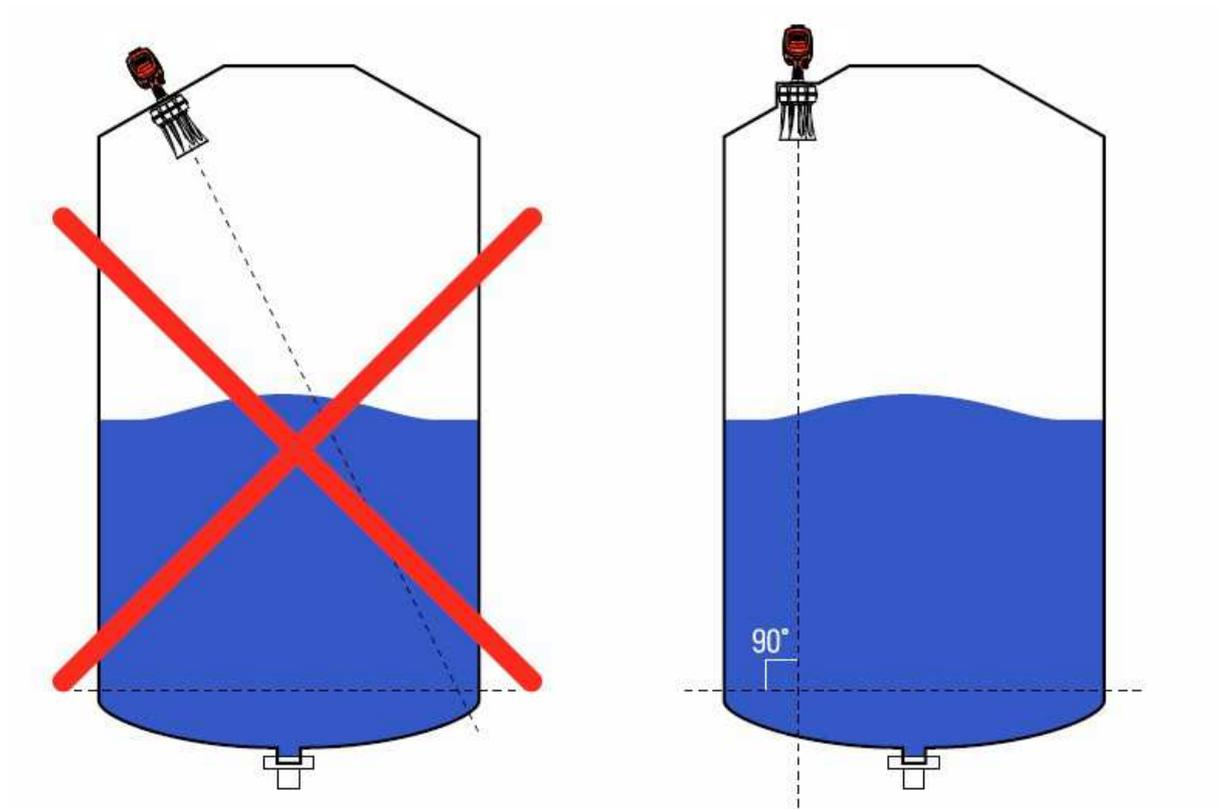

Figure 22 Mounting Positions
- ① The scanner must be mounted in a vertical position so that the horns/antennas are at a 90° angle to the ground, as shown in Figure 22.